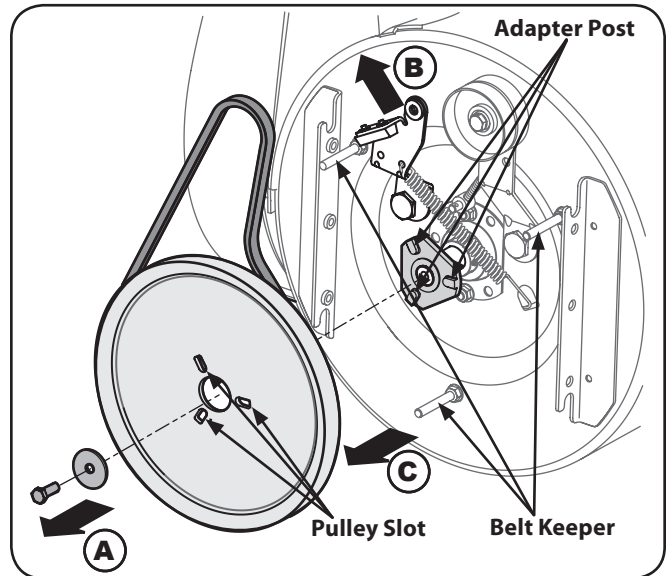

Figure 8-7
9. Block the impeller with a piece of wood to prevent it from spinning and use a 1/2" wrench to remove the hex screw and flat washer from the center of the auger input shaft and auger pulley adapter. Refer to Fig. 8-7.
10. Lift the brake bracket assembly out of the pulley groove and slide the pulley assembly off the posts of the auger pulley adapter to remove the old belt. Refer to Fig. 8-7.
12. Turn the pulley as necessary to align its three slots approximately with the posts of the pulley adapter, then move the brake bracket assembly away from the input shaft. While aligning the pulley slots and adapter posts, push the auger pulley fully onto the adapter. Refer to Fig. 8-7.
NOTE: If the pulley adapter was removed with the pulley, align the splines of the pulley adapter and auger input shaft, and push the pulley and adapter onto the input shaft. Refer to Fig. 8-7.